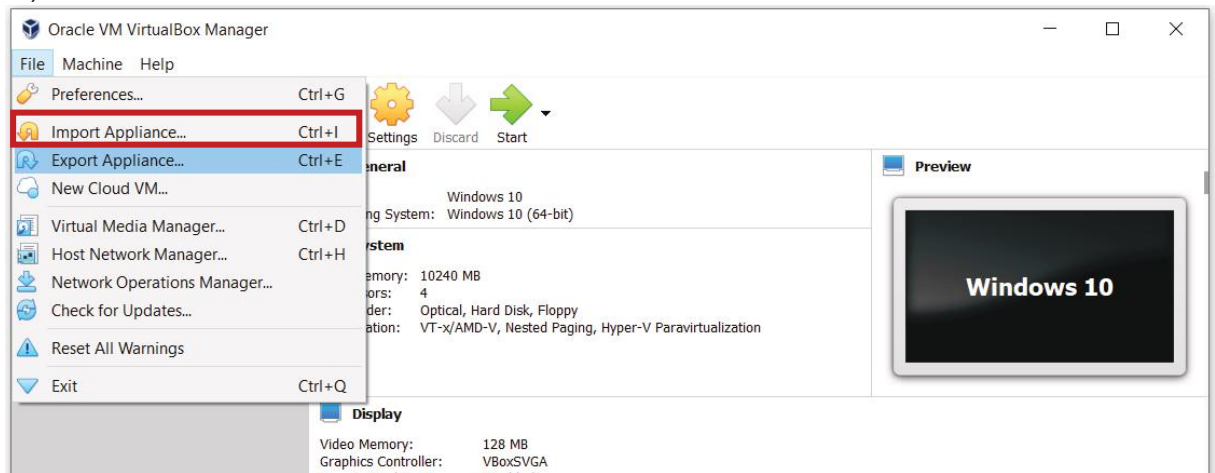

Figure 14. WM VirtualBox Software
- 'Eagle Eye Image File' supplied to the customer opens via VM VirtualBox. (See Figure 14)